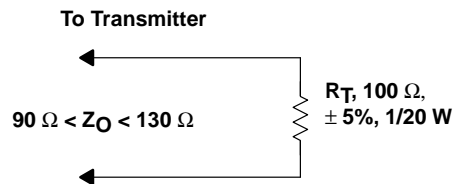

Figure 4. Differential Termination
- The termination schematic diagram is shown in Figure 4.